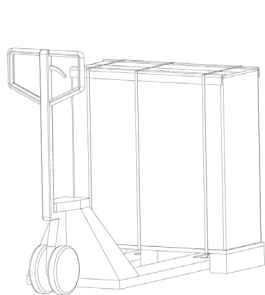

Fig. 4.
- ☐ To unpack the equipment follow the sequence from figure 4 to 7 (cut the wraps of the cardboard enclosure and remove it from the top as it was a cover or in case of wooden packaging, dismantle it with the needed tools; remove the corners and plastic bag. The UPS will be naked over the pallet.